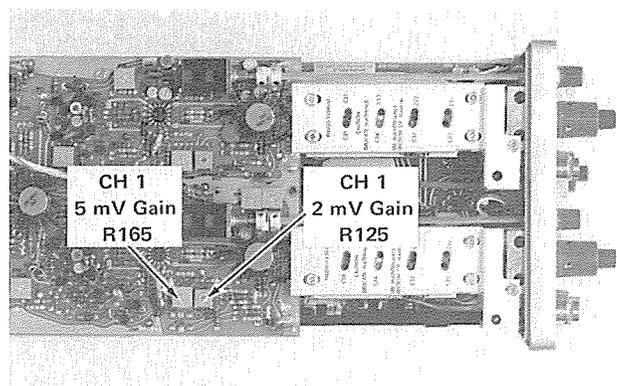

Fig. 5-12. Location of Gain adjustments for Channel 1.
- g. ADJUST—CH 1 5 mV Gain adjustment, R165 (see Fig. 5-12) for a 200 mV (peak-to-peak) display on the Test Oscilloscope.
- j. ADJUST—CH 1 2 mV Gain adjustment, R125 (see Fig. 5-12) for a 100 mV (peak-to-peak) display on the Test Oscilloscope.